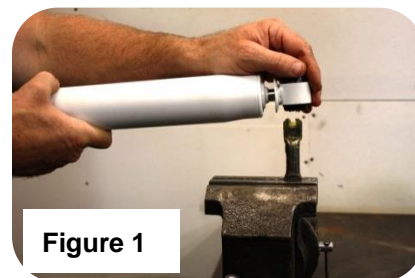

Figure 1
4. Grease and install barpins into the lower end of the front shocks as shown in **figure 1**.